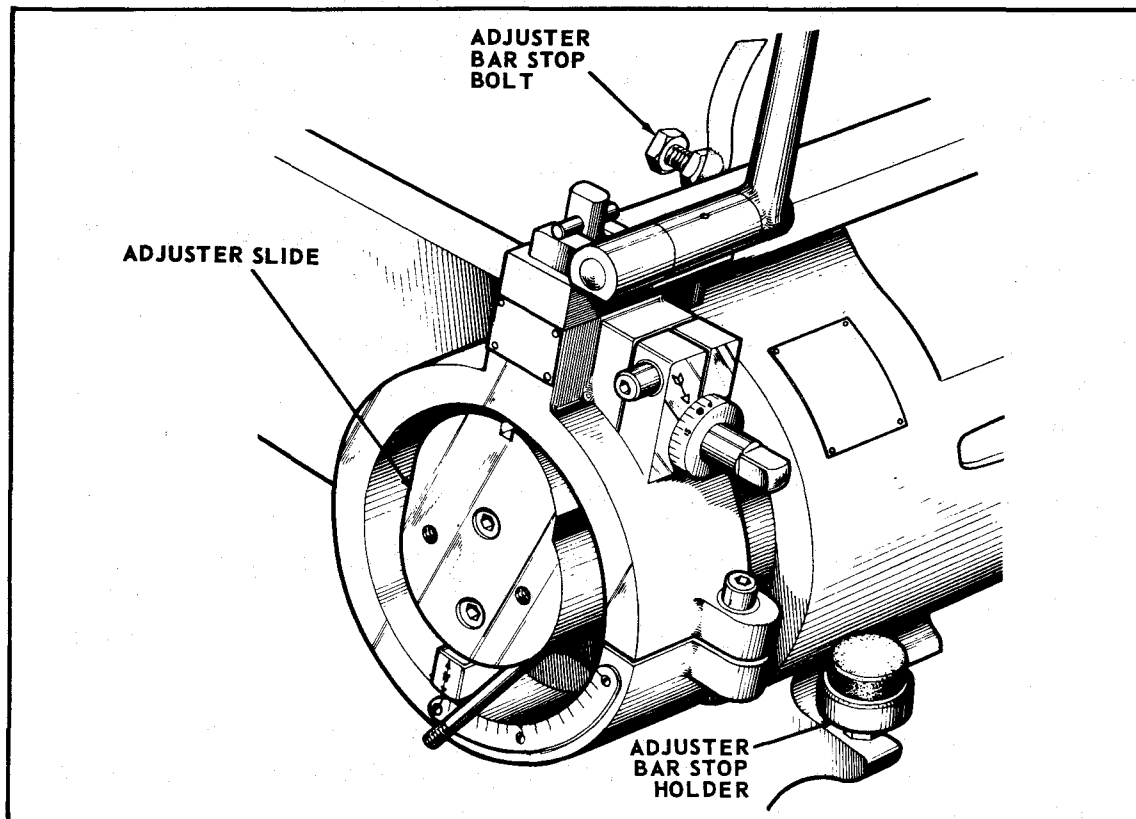

Figure 8
3. Reset bolts until they contact adjuster bar. (See Figure 8)